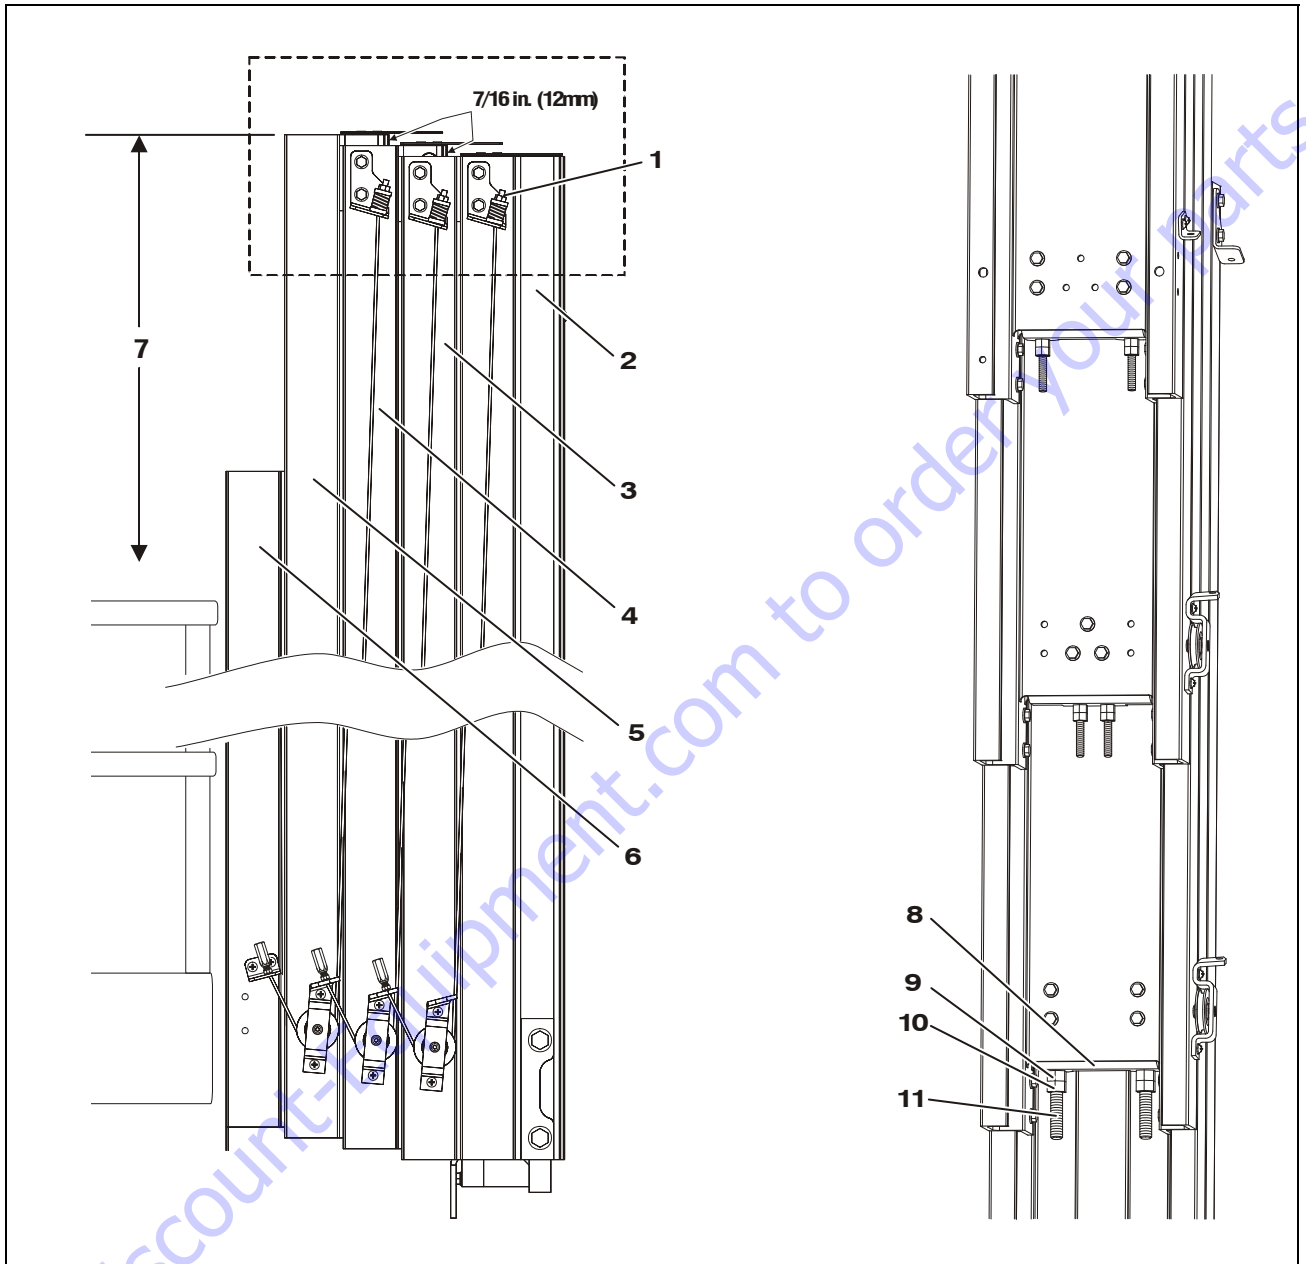

Figure 5-2. MVL/MSP - Mast Chain and Sequence Cable Adjustment Components.
6. **Tighten** (to raise mast section), or **loosen** (to lower mast section) the **adjusting nut** against the anchor plate on each chain/cable. Adjust the nut the amount required to raise or lower the top of the mast section to match the side profile shown in Figure 5-2. when the mast is retracted.
7. Retract the mast all the way and check if the top of the mast sections appear as shown in Figure 5-2.
8. Repeat steps (1) through (7) for remaining mast sections.
1. Be certain the mast is completely retracted and at the bottom of travel. Check the mast "Side Profile" at the top of the mast as shown in Figure 5-2., adjust mast sections to proper height if necessary.